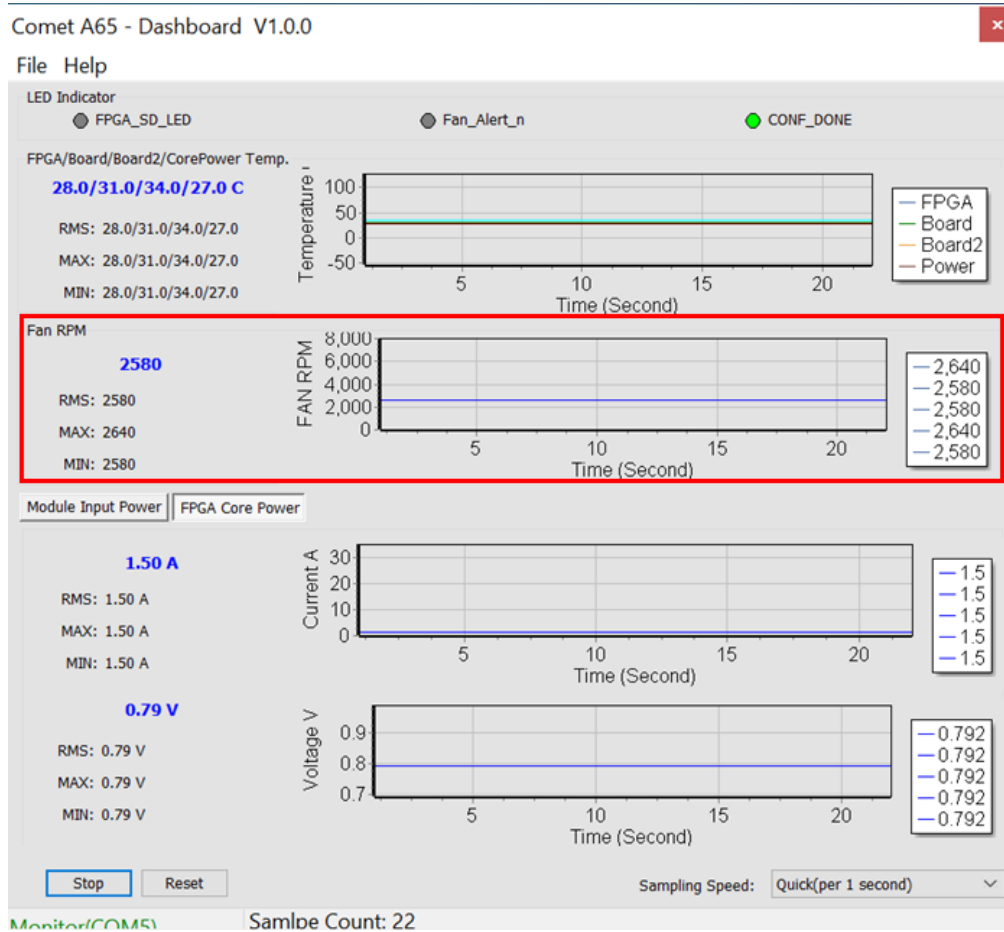

Figure 3-11 FAN RPM section
- **Fan RPM:** It displays the real-time speed of the fan on the Comet A65 SOM Evaluation Kit, as shown in **Figure 3-11**.